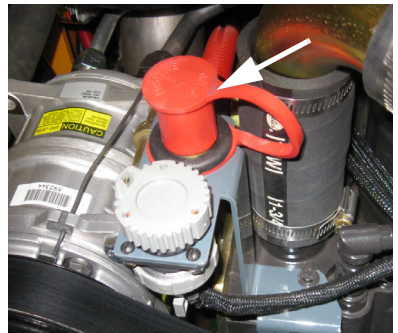

Figure 21 Positive (+) Remote Battery Terminal
2. Connect the positive (+) jumper cable to the positive (+) remote battery terminal (Figure 21) on the disabled loader first. **DO NOT** allow the positive clamps to touch any metal other than the positive (+) remote battery terminal.